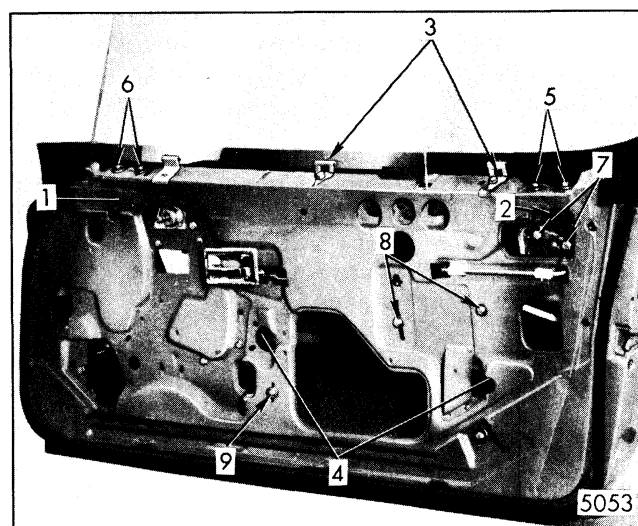
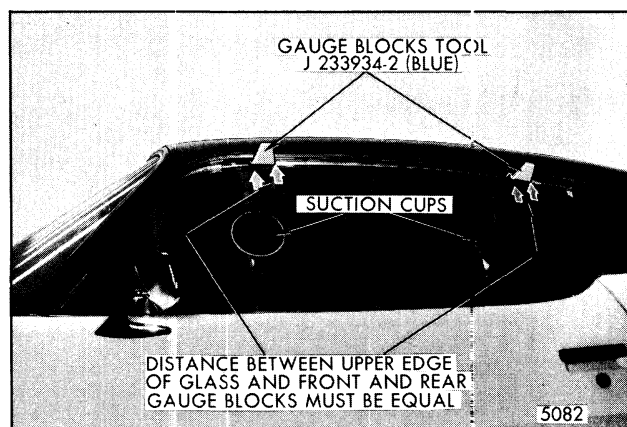
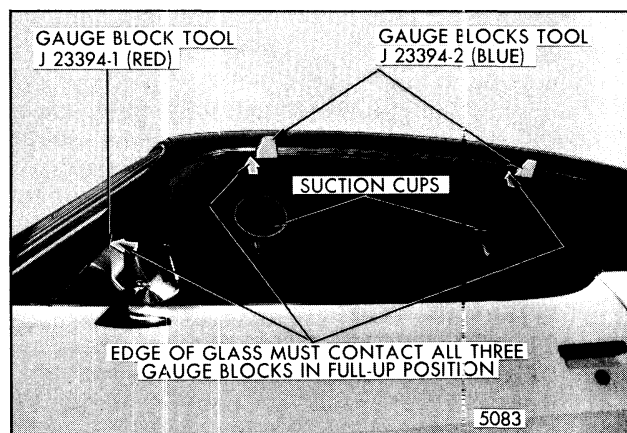

Fig. 5-104-Window Removal and Adjustment - "F" Styles
Fig. 5-106-"F" Style Door Window Alignment (Rotated "Cocked" Glass in Body Opening Adjustment)
Fig. 5-107-"F" Style Door Window Alignment (Fore and Aft Adjustment)
**NOTE:** On 6CB69 styles because glass must be adjusted within a "fixed" opening, install glass suction cups on interior surface of glass (as similarly used in Fig. 5-106 for "F" styles), to enable adjuster to shift glass when making adjustments with door in a closed position.
1. **WINDOW NOT PARALLEL WITH SIDE ROOF RAIL WEATHERSTRIP** - A rotated window condition (glass cocked in opening) can be corrected by loosening front and rear up-travel stops ("1" and "2", Fig. 5-104) and inner panel cam bolts ("8", Fig. 5-104) and raising or lowering front edge of glass in relation to rear edge of glass as required, to parallel upper edge of glass with side roof rail weatherstrip. Then, tighten inner panel cam attaching bolts and raise
2. **WINDOW TOO FAR INBOARD OR OUTBOARD ALONG UPPER EDGE IN RELATION TO SIDE ROOF RAIL WEATHERSTRIP** - To adjust upper edge of window in or out in relation to side roof rail weatherstrip, loosen upper ends of front and rear guides ("5" and "6", Fig. 5-104) and glass belt trim support retainers ("3", Fig. 5-104) and position guide inboard or outboard as required. Outboard adjustment of the guide assembly moves the upper edge of the glass inboard. Conversely, inboard adjustment moves the upper edge of the glass outboard. With glass in a full-up position, position trim support retainers against inner surface of glass and tighten attaching bolts. Torque all previously loosened hardware attachment components to 60 to 90 inch pounds.
3. **WINDOW TOO HIGH OR LOW IN RELATION TO SIDE ROOF RAIL WEATHERSTRIP** - To adjust window up-travel, loosen front and rear up-travel stops ("1" and "2", Fig. 5-104) and operate window to desired position to establish proper glass to side roof rail weatherstrip contact. Torque up-travel stop bolts to 60 to 90 inch pounds.
4. **WINDOW TOO HIGH OR LOW WHEN IN A DOWN POSITION IN RELATION TO THE BELTLINE** - To adjust window down-travel, loosen window down-travel bumper support ("9", Fig. 5-104) and lower or raise window to desired full-down glass height. Then, position bumper support against lower edge of glass and torque attaching bolt to 60 to 90 inch pounds.
5. **WINDOW TOO FAR FORWARD OR REARWARD IN RELATION TO PILLAR WEATHERSTRIP OR ADJACENT BODY GLASS** - To adjust window forward or rearward, loosen upper end of rear guide ("7", Fig. 5-104) and re-position glass as necessary. Upper attaching locations in the inner panel are slotted to permit fore and aft adjustment of the guide. Because the roller assembly (bell crank) which attaches to the glass at the front pivots, the front guide does not have to be adjusted during fore and aft window alignment. Torque guide attachments to 60 to 90 inch pounds.
6. **WINDOW MECHANISM BINDS WHEN OPERATING WINDOW ASSEMBLY** - Ease of window operation and window stability depends a great extent on the adjustment of the window belt trim support retainers at the belt-line ("3", Fig. 5-104). The support retainers should contact the glass throughout the full cycle of the window. However, in some cases due
3. With glass in a partially down position, install gauge blocks, tool J-23394-2 (blue) or equivalent, into side roof rail weatherstrip retainer above upper front and rear corners of the glass as shown in Figure 5-106. Then, install glass suction cups on interior surface of glass (Fig. 5-106) to enable adjuster to shift glass when making adjustments with door in a closed position.
**NOTE:** When installing gauge blocks (blue) or equivalent into upper retainer on "F" styles, handle portion of blocks must protrude outboard (Fig. 5-106). Also, grooves on sides of blocks must be fully engaged with side roof rail weatherstrip retainer.
4. Working from inside body, with door in a closed position, loosen front and rear up-travel stops ("1" and "2", Fig. 5-104) and belt trim support retainers ("3", Fig. 5-104).
5. Raise door window to approximately 1" from full-up position as illustrated in Figure 5-106. If distance (space) between upper edge of glass and front and rear gauge blocks is equal (as shown in Fig. 5-106), proceed with Step 6. If distance (space) between upper edge of glass and both upper gauge blocks is not equal loosen inner pannel cam attaching bolts ("8", Fig. 5-104) and adjust as necessary.
6. Lower glass and install gauge block, tool J-23394-1 (red), or equivalent into the windshield pillar retainer slightly above the beltline (Fig. 5-107).
If upper and forward edge of glass contacts all three gauge blocks at the same time (as shown in Fig. 5-107), proceed with Step 7. If upper and forward edge does not contact all three gauge blocks simultaneously, loosen fore and aft adjustment on rear guide ("7", Fig. 5-104) and move glass forward or rearward until edge of glass contacts all three gauge blocks in full-up position.
7. Completely loosen upper and lower ends of front and rear guides ("5" and "6", Fig. 5-104). Apply firm outboard pressure against upper end of front guide to remove slack in system and to hold upper inner edge of the glass inboard against outer edge of tab on gauge block. Then, tighten front guide upper, then lower attaching bolts. Repeat operation with rear guide. Guides will now be coordinated to plane of glass.
8. With glass in full-up position against gauge blocks, tighten up-travel stops ("1" and "2", Fig. 5-104) and adjust belt trim support retainers ("3", Fig. 5-104) outboard for light contact.
2. Remove window front and rear up-travel stops ("1" and "2", Fig. 5-104).
3. Loosen window front and rear belt trim support retainers ("3", Fig. 5-104).
4. With window in three-quarter-down position, remove lower sash channel cam to glass attaching nuts ("4", Fig. 5-104). Remove window by lifting straight up and aligning rollers with notches provided in the door inner panel.